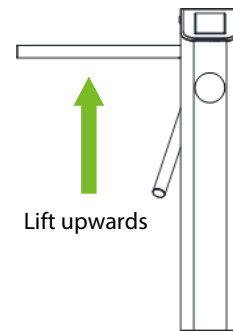

Figure 2-4
- Lift the arms manually, as shown in figure 2-4.